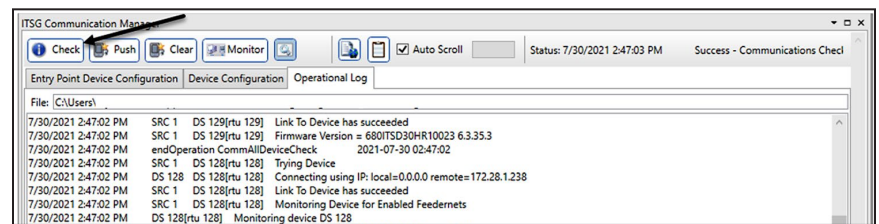

Figure 13. The communication Check button.
STEP 1. Open the communication manager and run a communication check to the controls by clicking on the **Check** button. See Figure 13.